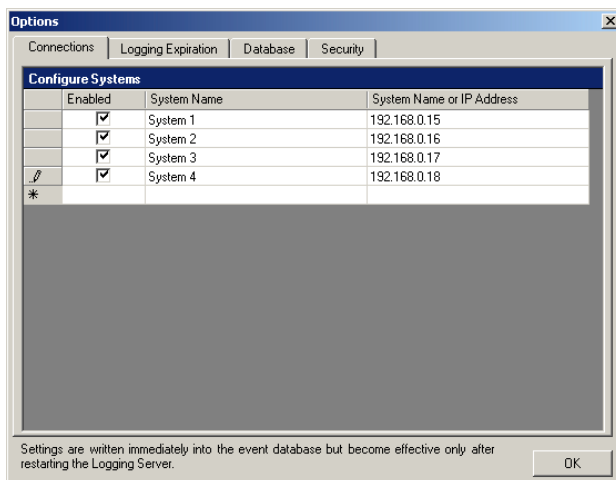

figure 49.8: Add a system (3)
- 3 Click the *System Name or IP Address* field and enter the IP address or the name of the network controller of the system to which the *Logging Server* must connect. For example, *192.168.0.18* (see figure 49.8).